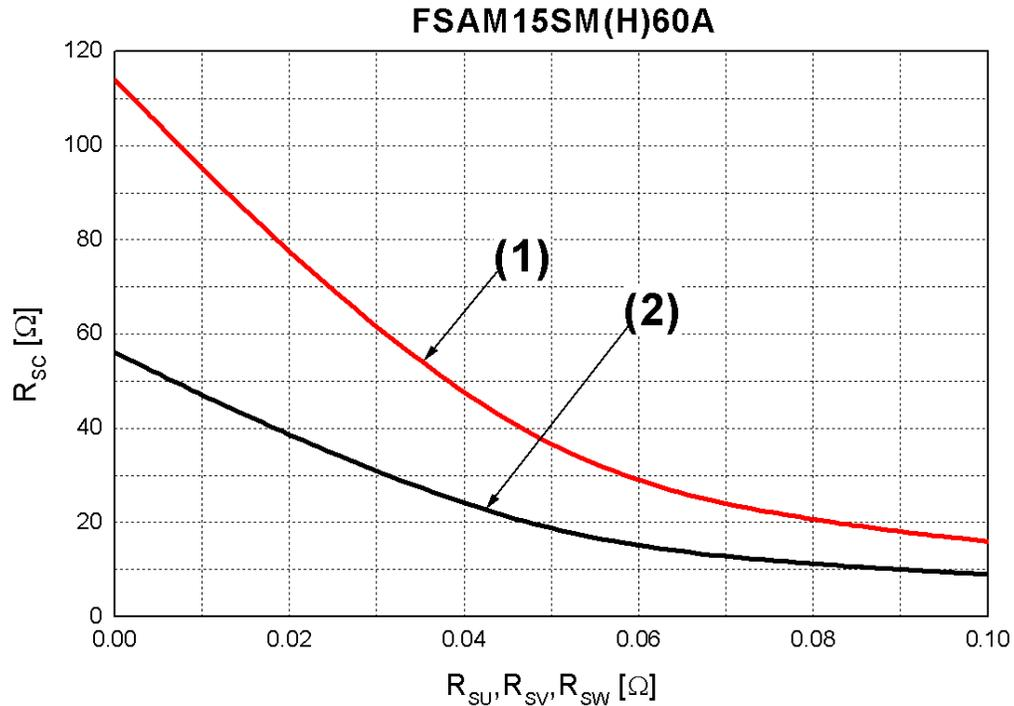

Figure 7.5 Variation by change of Shunt Resistors (R_{SU} , R_{SV} , R_{SW}) for Short-Circuit Protection (FSAM15SH60A)
The internal protection circuit triggers off under SC condition by comparing the internal sense IGBT voltage to the reference SC trip voltage in the LVIC. In this case, the circuit designer can be choice short-circuit protection current level using voltage divide resistor (R_{SC}). Refer to Figure 7.5
For examples, using FSAM15SH(M)60A, If circuit designer want to choice short circuit protection level to 150% (22.A) of rated current and used 30mohm for current sensing resistor, following black line (2) in Figure7.5, circuit designer have to select 30ohm for voltage divide resistor (R_{SC}).